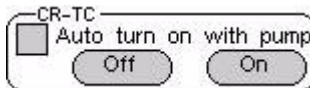

Figure B-17. Eluent Generator Page: CR-TC Controls
- To manually control the CR-TC power, touch the **CR-TC Off** and **On** buttons on the **ELUENT GENERATOR** page (see Figure B-17).